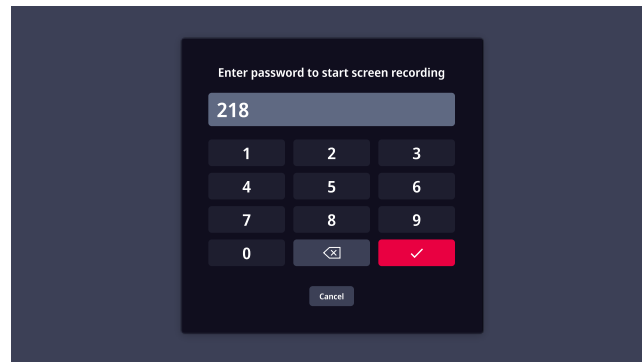

Fig. 54
2. Enter password 218 then tap the  button to enter **Maintenance Mode**. (See Fig. 54 on page 35)